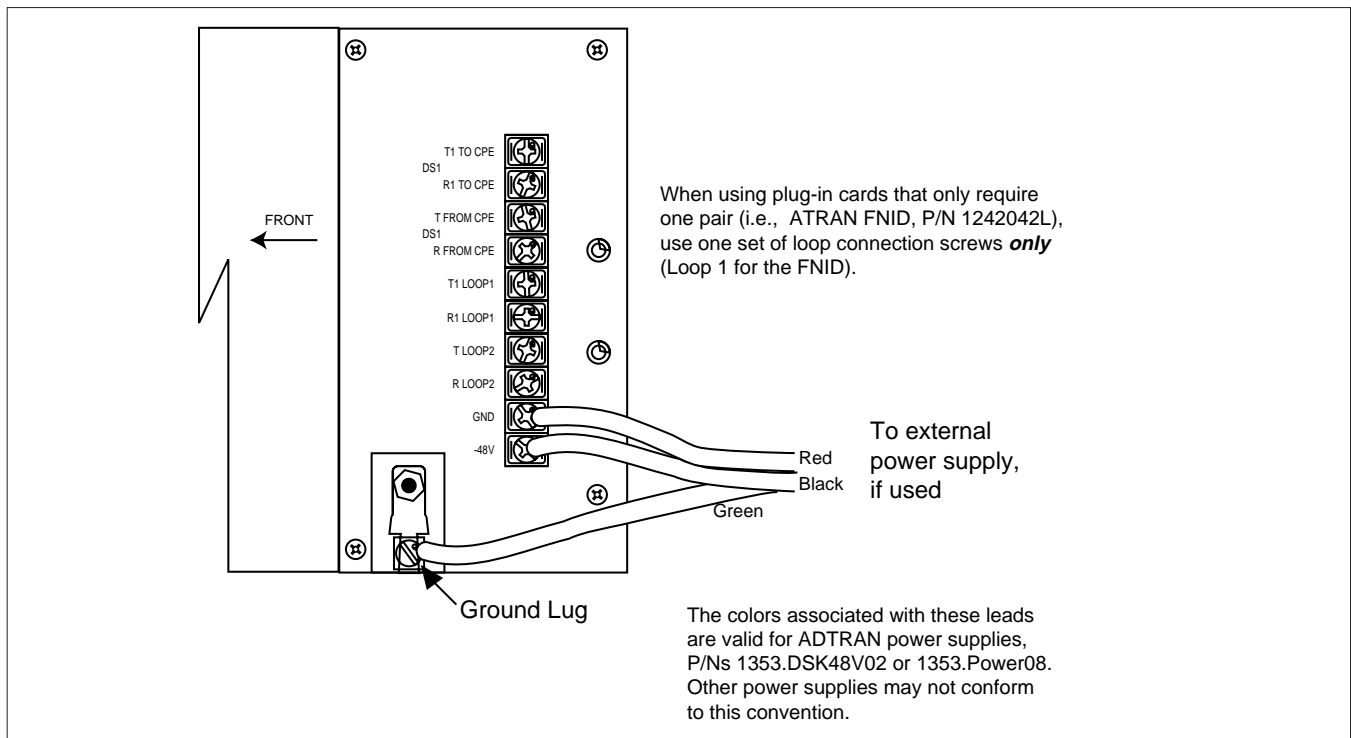

Figure 2. T400 Housing Terminal Barrier Strip
2.2 Inside the housing is a terminal barrier strip (Figure 2) for connecting to the network, to the CPE, and to an external power source, if one is used. A grounding lug is provided for frame ground connections.
The T400 Housing is designed to house a loop-powered or locally-powered circuit card. The terminal barrier strip provides the ability to connect an external -48 VDC supply to the circuit card. These connections are made to the -48 V and GND on the barrier strip (see **Figure 2**). Connection from the barrier strip to the edge card connector is described in **Table B**. A ground lug (see **Figure 2**) is provided to connect an external frame ground wire to the unit.